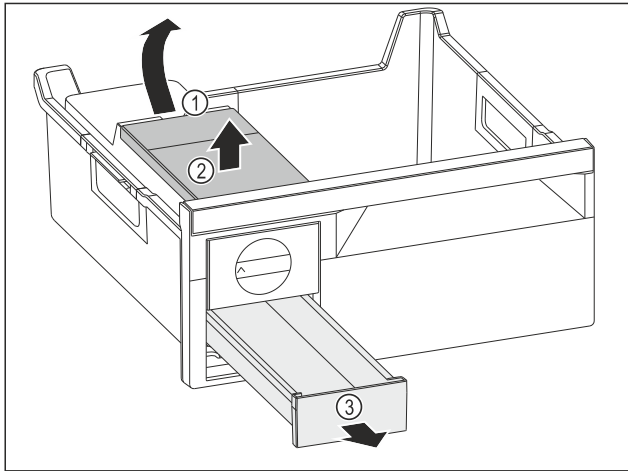

Fig. 75
- ▶ Removing the water tank: Lift the water tank by the recess Fig. 75 (1).
- ▶ Remove the water tank Fig. 75 (2) upwards.
- ▶ Remove the ice cube drawer Fig. 75 (3) to the front.